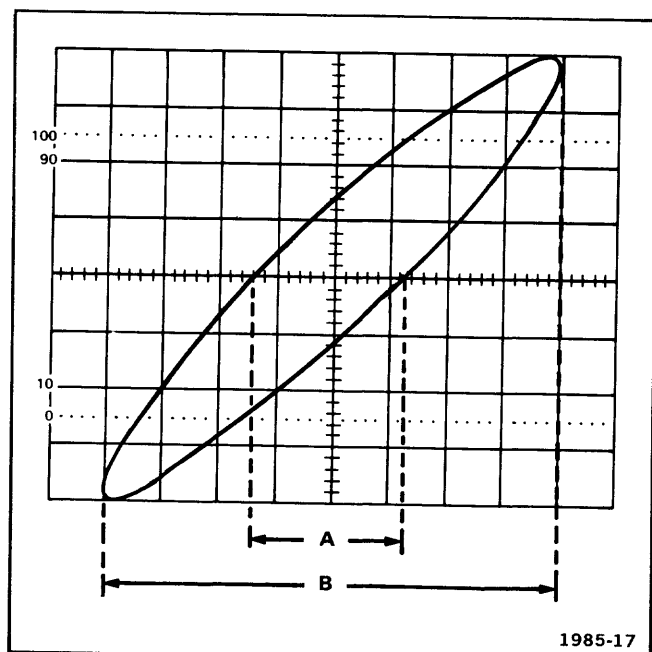

Figure 2. Measurement of phase angle difference from an X-Y display.
5. Advance the mainframe intensity control until the display is at the desired viewing level. Set the amplifier deflection factors and variable volts/division controls for eight divisions of vertical and horizontal deflection, and set the position controls to center the display on the graticule as shown in Figure 2.
6. Measure and record the overall horizontal deflection (B) and the opening of the Lissajous display (A), measuring horizontally at the graticule horizontal center line (see Figure 2).
Example: Assume that the horizontal distance measured at the center opening of the display (A) is 2.7 divisions (see Figure 2) and the overall horizontal distance of the display (B) is eight divisions.